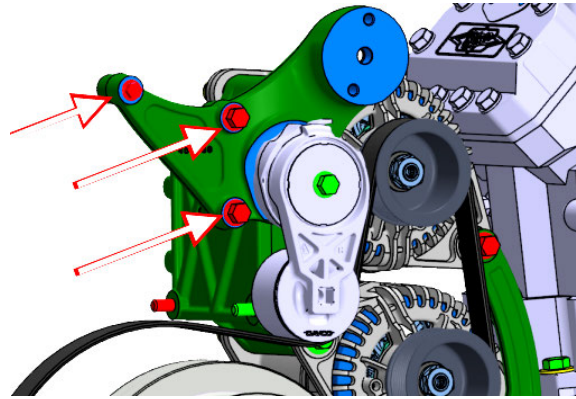

FIGURE 11
16. Remove the alternator belt tensioner bracket assembly. To do so, remove the three bolts identified with arrows on **FIGURE 11**.